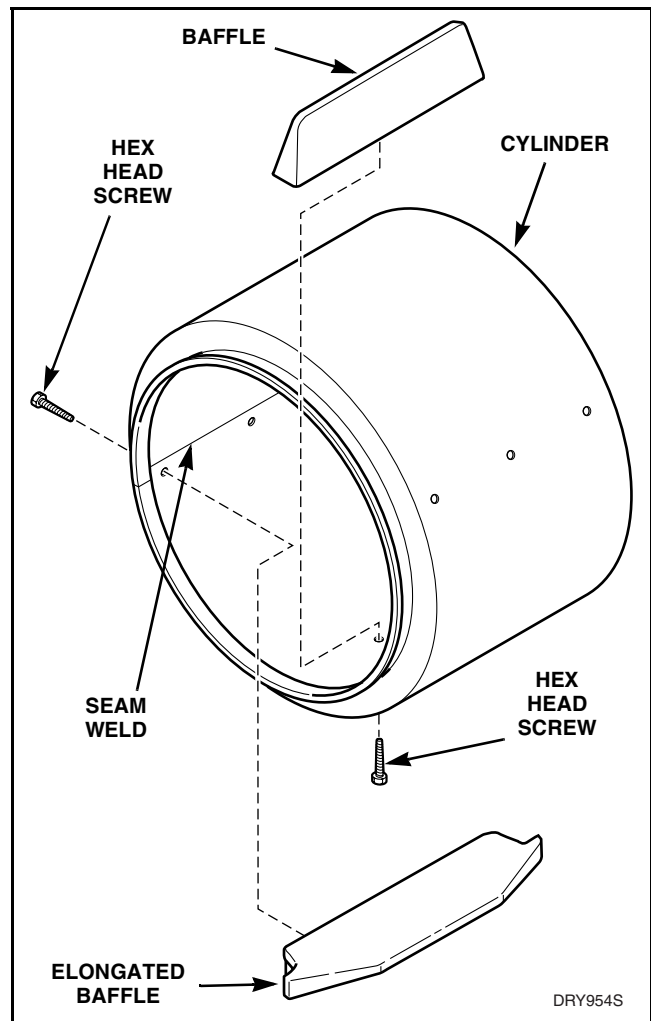

Figure 34
- Remove screws holding baffles to cylinder. Refer to *Figure 34*.
**IMPORTANT:** On models using unpainted, corrosion resistant, coated steel cylinder, the elongated baffle must be installed to cover the cylinder seam weld. Refer to *Figure 34*.